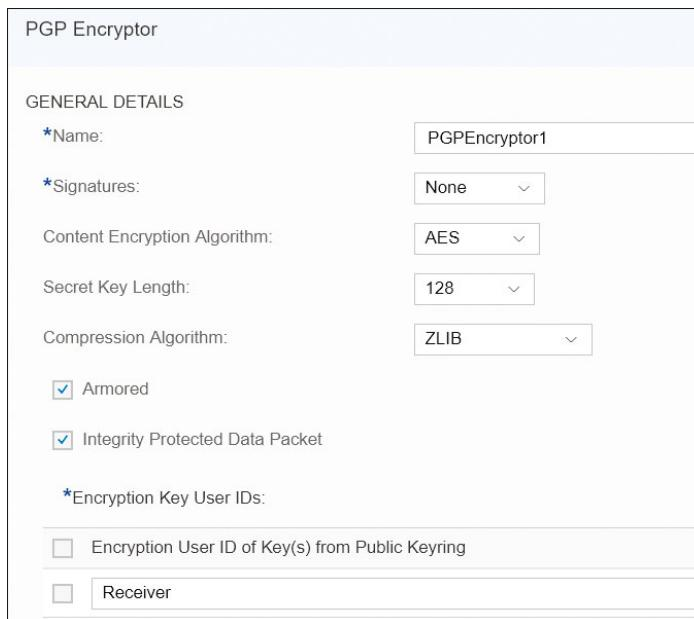

Figure 10.52 Parameters of the PGP Encryptor to Be Specified When No Signatures Are Included
7. Specify the properties of the **Encryptor** step (Figure 10.52). In the **Encryption User ID of Key(s) from Public Keyring** field, enter the user ID of the related key. To find the user ID, open Kleopatra, select the relevant key used for encryption, and check for the **Name** of the key. In our example, this is the **Receiver** key. For the other parameters, you can leave the default settings.